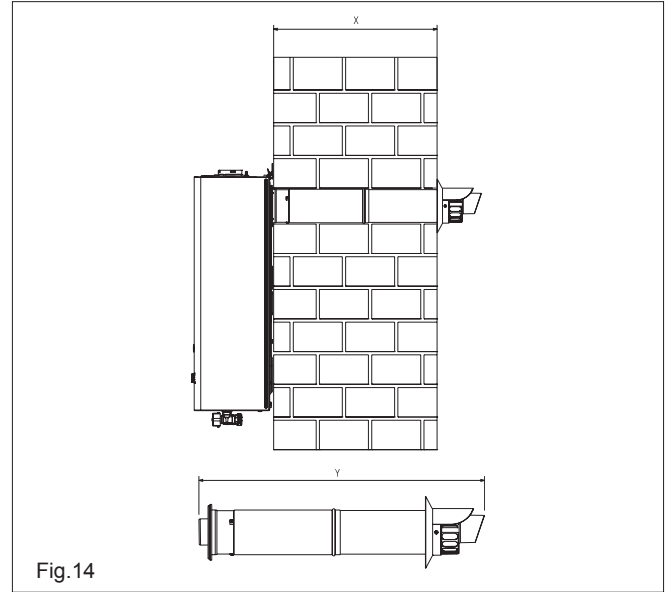

Fig. 14
**4.5.1.2 FITTING THE REAR FLUE (fig. 14) (rear flue outlet only)**